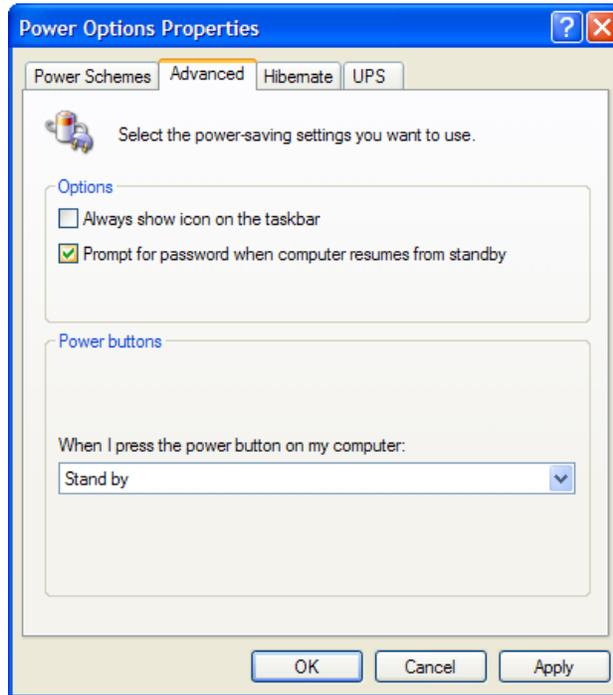

Figure 5-19 Windows XP Power Options
2. Click the Advanced tab. The Power Options Properties window opens, as shown in Figure 5-19.
**Tip:** If you prefer the system to remain running when the session is disconnected, you need to change the power button setting in Figure 5-19 to **Do nothing**. Then, the HC10 remains logged in and accessible to anyone that has access to a CP20, which can be a security exposure.